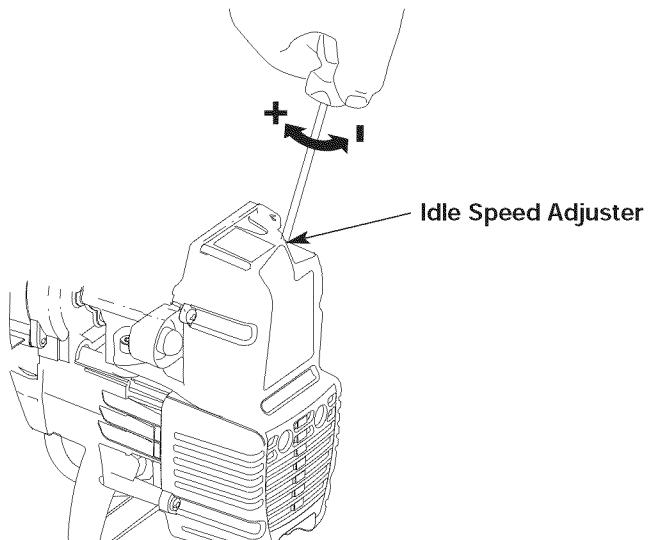

Fig. 17
2. Release the throttle control and let the engine idle. If the engine stops, insert a small phillips or flat blade screwdriver into the hole in the muffler cover (Fig. 17). Turn the idle speed screw **clockwise** 1/8 of a turn at a time (as needed) until the engine idles smoothly.
The engine's idle speed adjuster is adjustable through the air filter/muffler cover (Fig. 17).